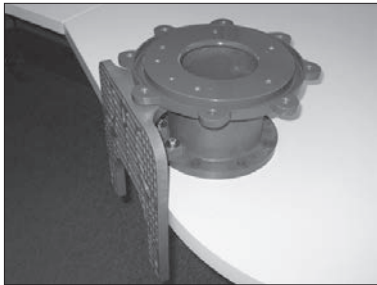
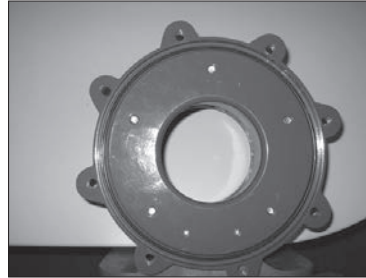

Figure 42
Figure 43
- Position the motor adapter assembly on a flat surface. If the foot is installed, allow the feet to hang over the edge. See figure 42. Install the o-ring (item 12A) into the groove on the clamp ring. Lubricate the o-ring with a compatible lubricant. See figure 43.